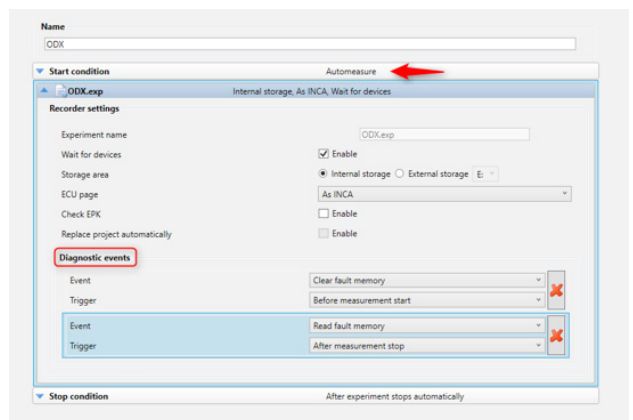

Fig. 3
- set the Start condition as Automeasure (Fig.3)